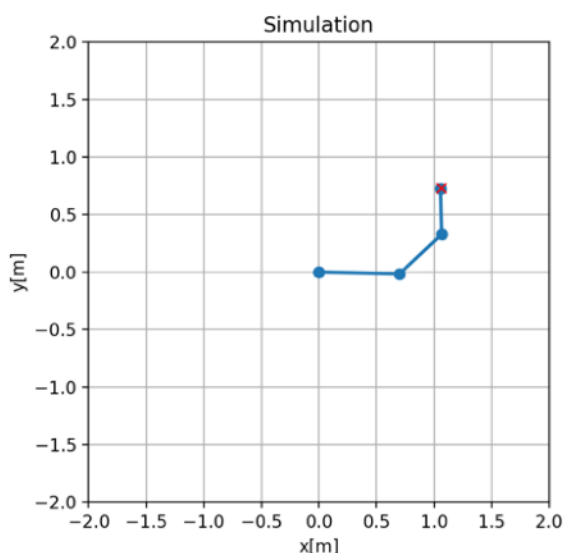

Fig 1. Simulation of the manipulator, including end-effector goal.
A screen capture of an exemplary simulation output is presented in Fig. 1.
- 3) Plot presenting the visualisation of the robot structure in motion (see Fig. 1).